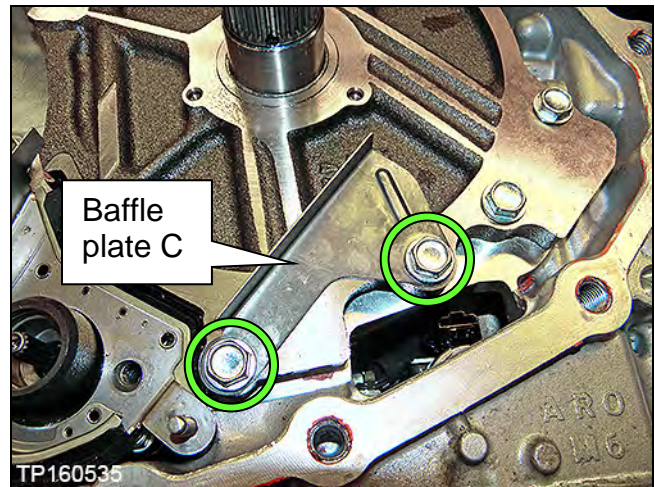

Figure 18C
12. Remove the two bolts from baffle plate C, and then remove baffle plate C (Figure 18C).